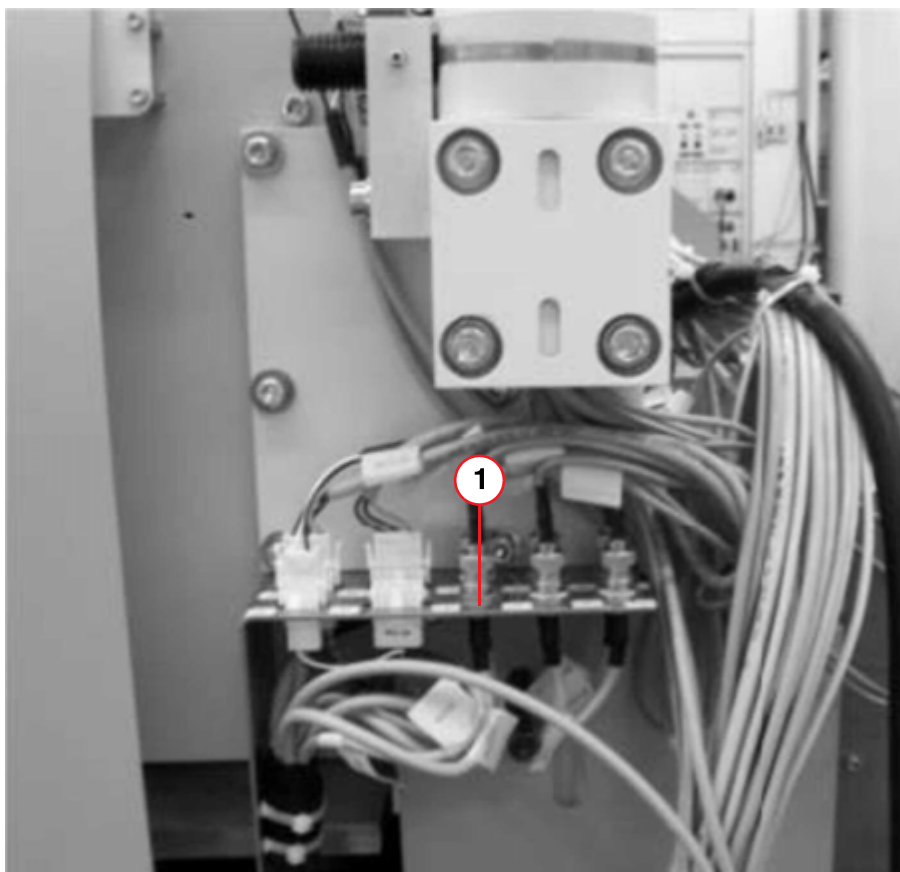

Fig. 48: Support arm connections
- Screw partial harness W650 with the interface plate onto the unit connection via 2 screws M4 x 10 DIN 912 (1/ Fig. 48 / p. 72).